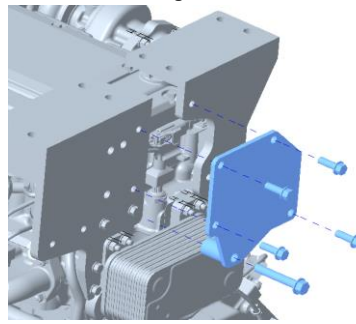

Figure 7
6. Install the ATD brace bracket (13) on the ATD mount bracket (8) using M10X30 (21) and M12X70 (26) bolts as shown in the figure 7.